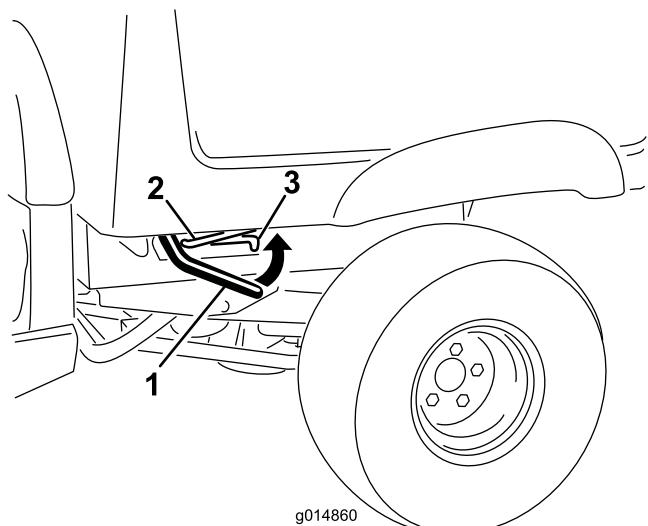

Figure 19
1. Lift the latch lever that is at the either side near the forward corner of the cargo box, and lift the box up (Figure 19).
2. Secure the cargo box by pulling the prop rod into the rear detent at end of the slot that is in the left frame of the machine (Figure 19).
1. Raise the cargo box slightly by lifting up on the latch lever (Figure 19).
2. Pull the prop rod out of the detent slot (Figure 19).
3. Lower the box until it latches into securely (Figure 19).